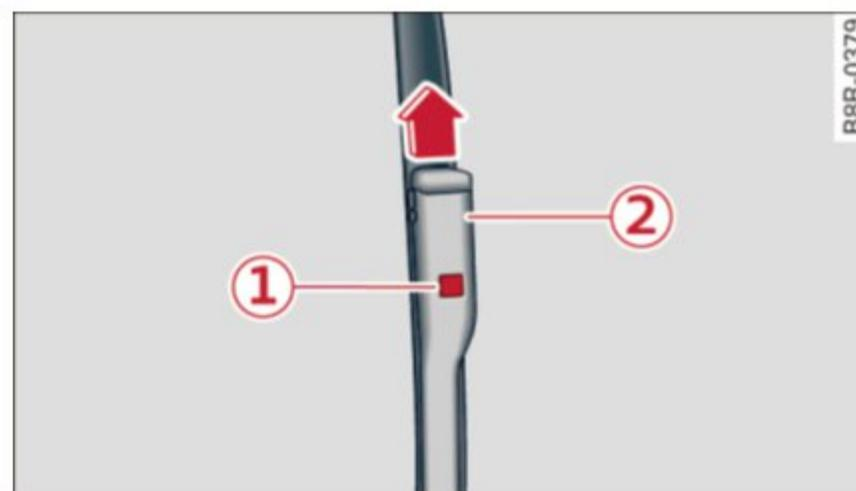

Fig. 49 Removing windshield wiper blade
- ▶ Press the locking knob ① ⇒ fig. 49 on the wiper blade. Hold the wiper blade firmly.